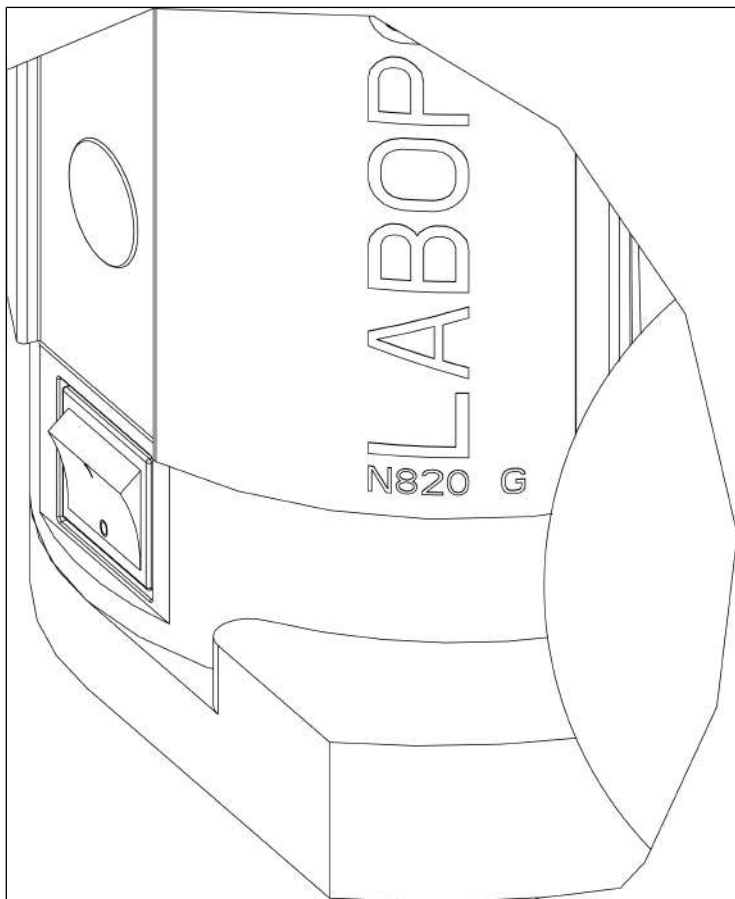

Fig. 8: Switch vacuum system on and off with power switch
- Switch on the vacuum system with the power switch (see Fig. 8).